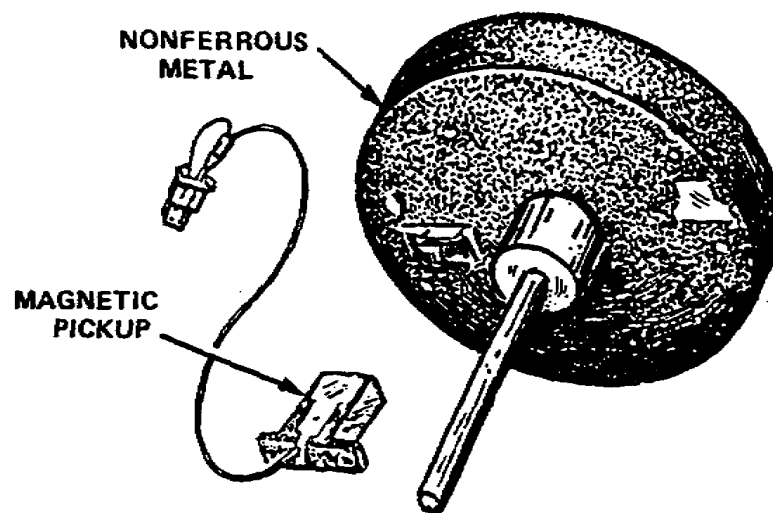
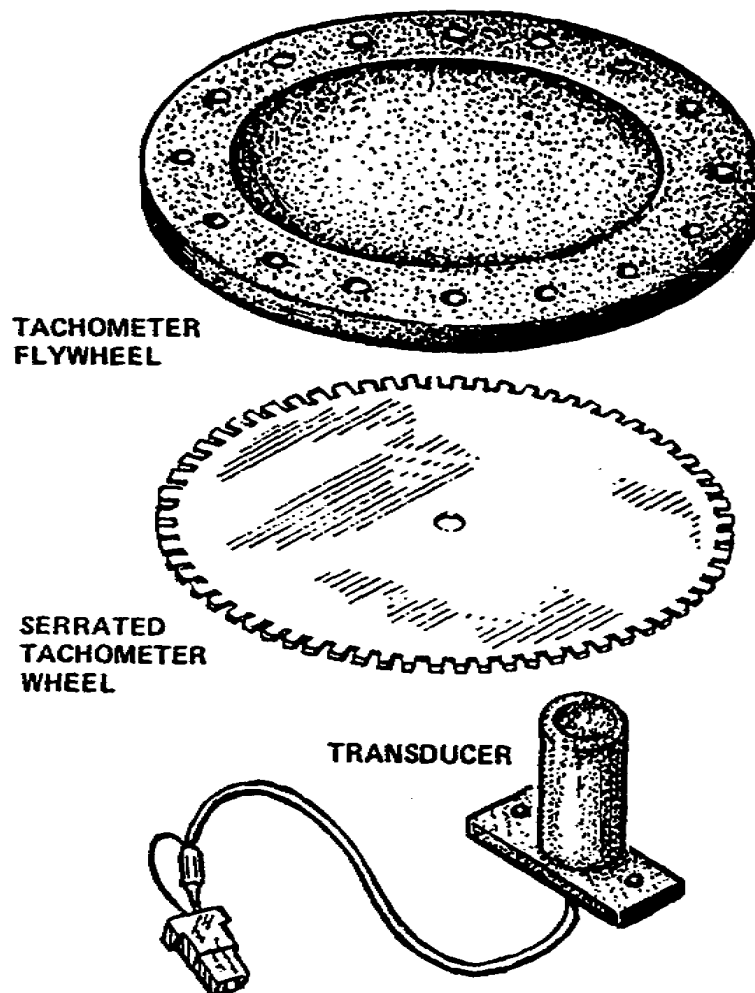

Figure 2-5. Tachometer with single pulse output
Figure 2-6. Tachometer with multiple pulse output
a. To control the speed of the head, the head drum is controlled by the output of the servo circuit. As previously discussed under frequencies, the servo frequency is a combination of frequency inputs. One of these is the tachometer input used in combination with one or more of the other inputs. The actual design of the tachometer varies among many models. It may be a single magnetic pickup with a single tach detector (fig 2-5) or it may be a wheel with multiple tach detector serrations (fig 2-6) set equally around its circumference to generate pulse into a transducer pickup.